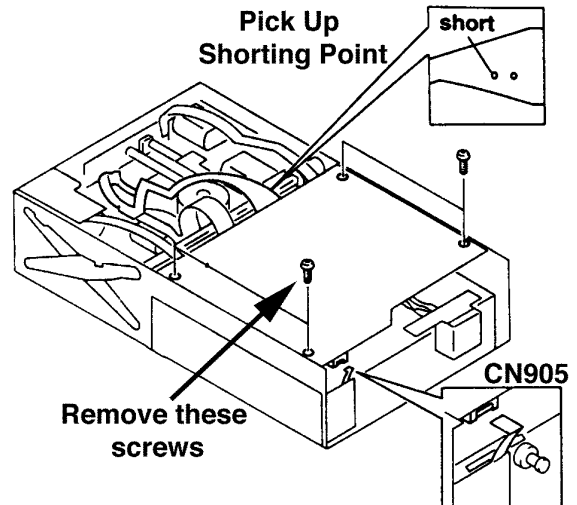

**Figure 4. RC-20 Disassembly/Assembly View**
**Note:** Numbers in parentheses correspond to the callouts in Figure 4.